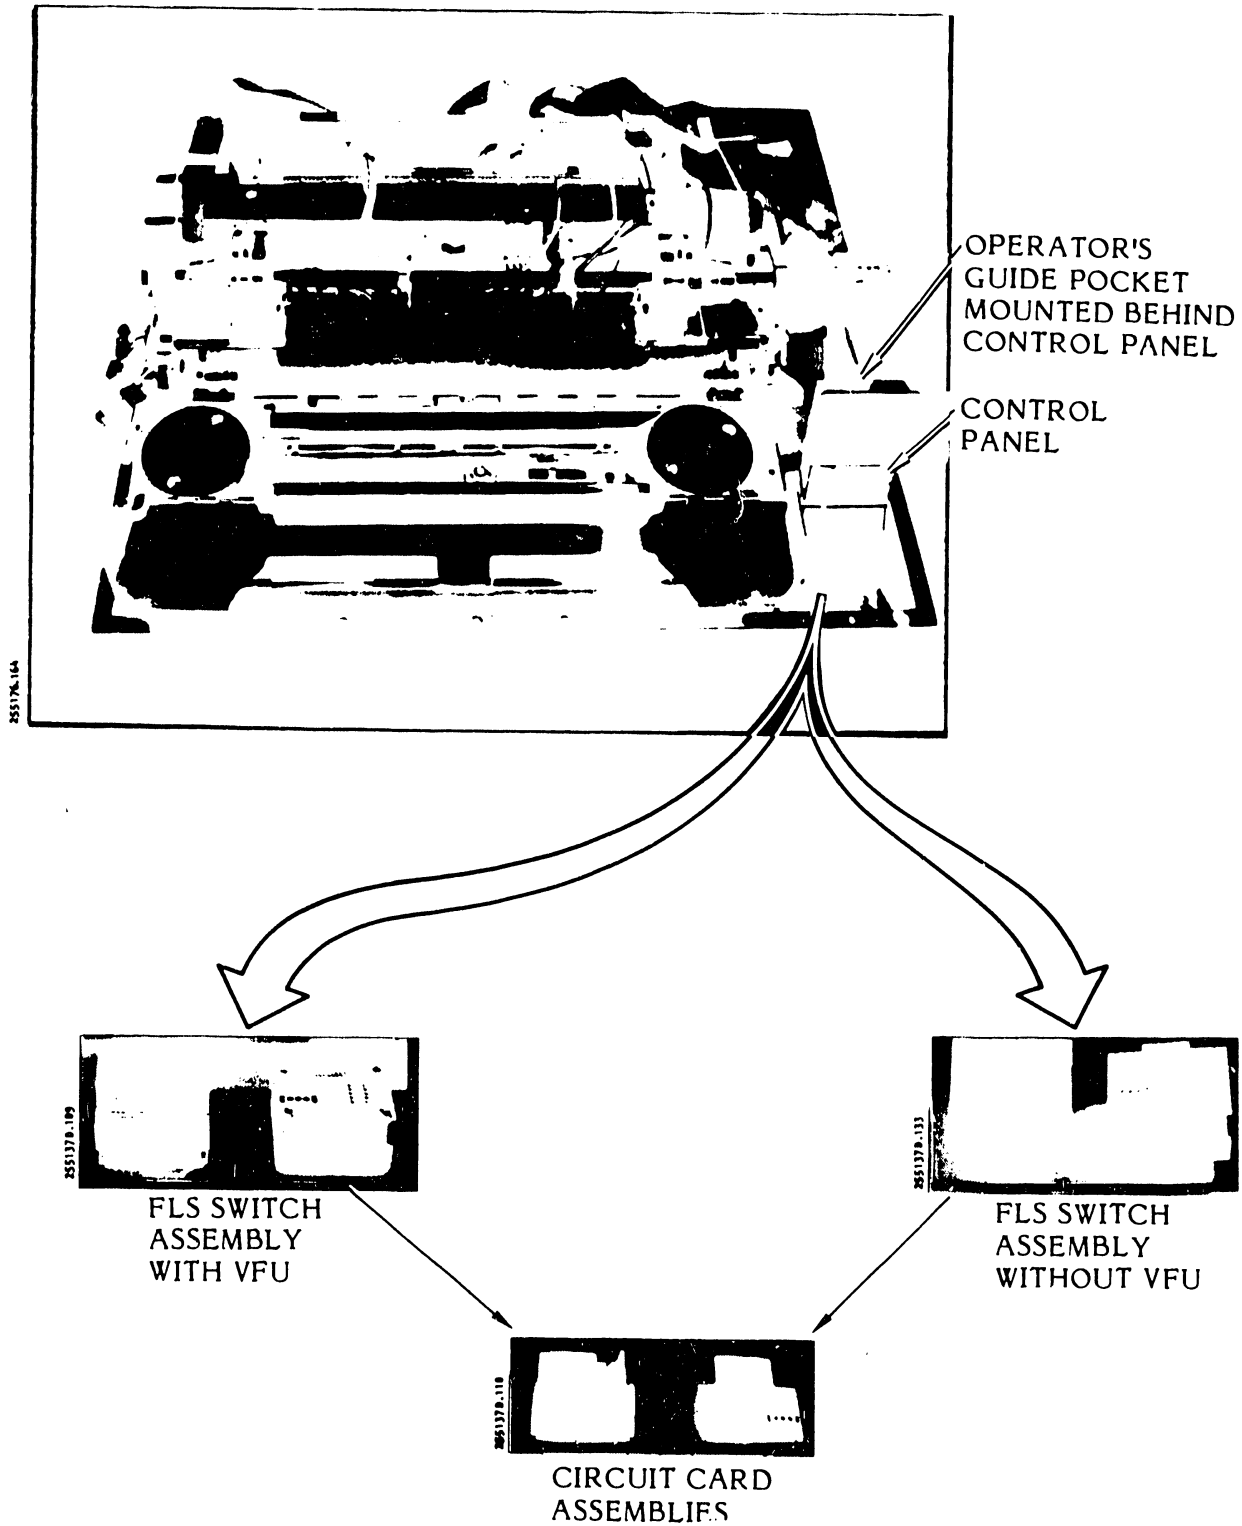

Figure 3-97. Forms Length Select Switch Circuit Card Assembly Removal/Installation
3.7.28 Forms Length Select (FLS) Switch Circuit Card Assembly Removal/Installation (Figure 3-97)